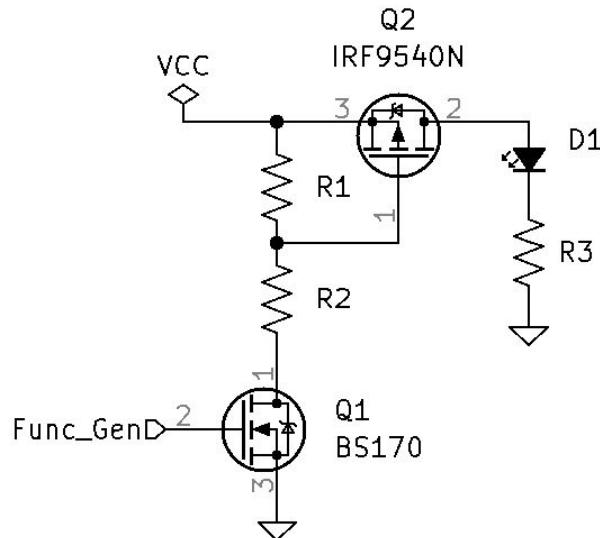

Figure 12.2: Switch Test Circuit 2
4. Design a circuit to test the switching ability of the IRF9Z24N. See *Switch Test Circuit 2* Figure 12.2. Make $VCC = 40V$.